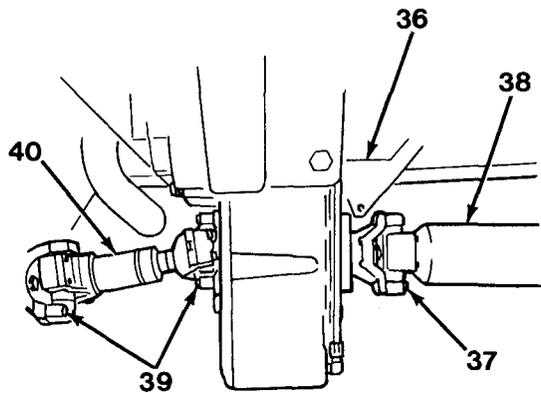
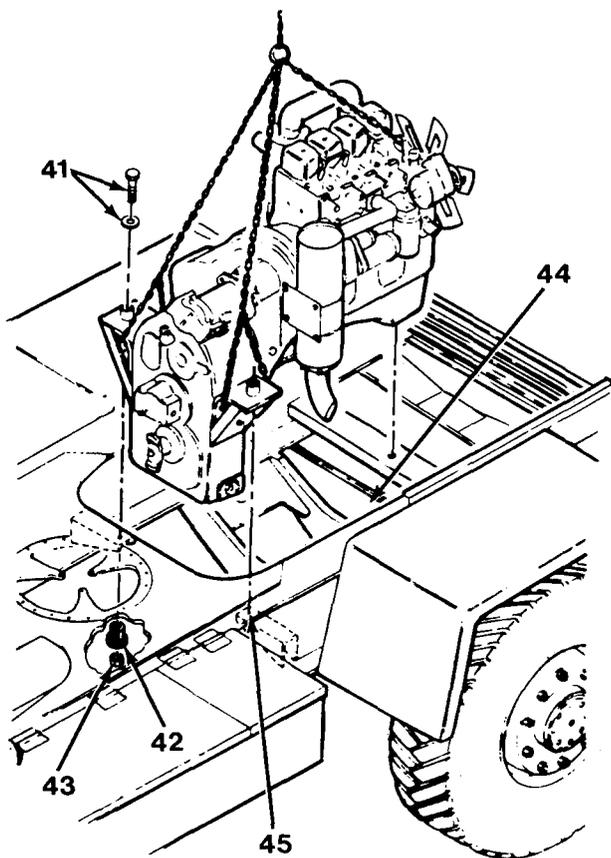

Figure 18-5
Figure 18-6
12. Remove shift bracket (36, Figure 18-5) as an assembly from above front drive shaft (refer to page 11-80).
13. Remove four capscrews (37) and disconnect front drive shaft (38) from transmission. Support front drive shaft on suitable blocks.
14. Remove eight capscrews (39) and rear drive shaft (40) from transmission and rear axle.
15. Engine/transmission assembly is mounted at four points with rubber shock mounts, two on the left side and two on the right side of transmission and engine. Remove four capscrews and washers (41), spacers (42), and nuts (43) securing engine at the four locations (44) and (45, Figure 18-6). Check to make sure the path up and out of frame is clear of hoses, wires and brackets.